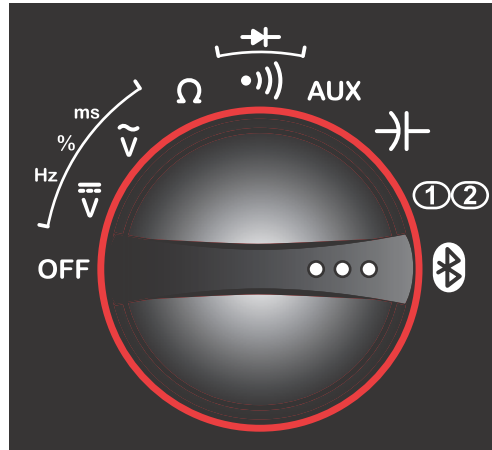

Figure 8-26 Remote functions setting
1. Set the M2 Scope/Meter **Rotary Switch** to the **Remote Functions** position (Figure 8-26).